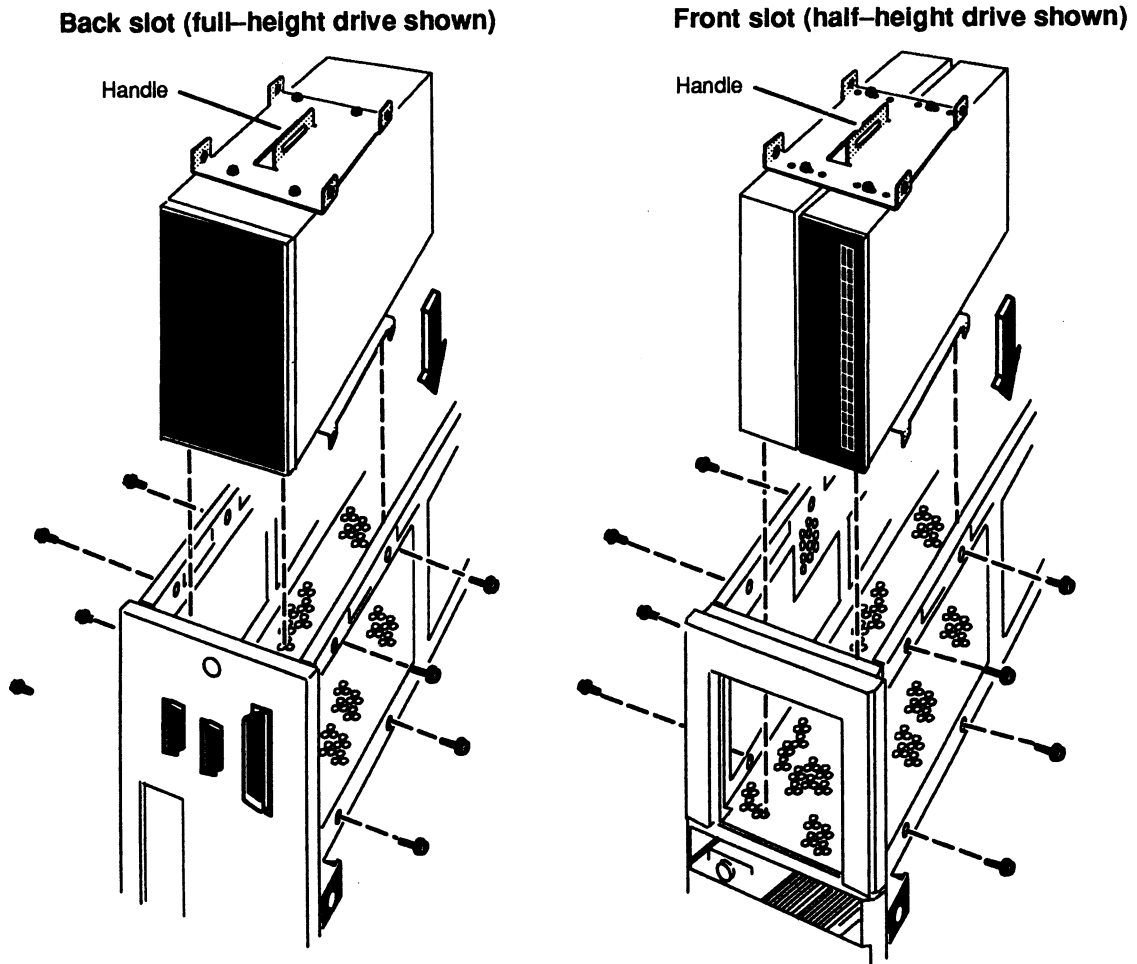

Figure 6-11 Installing a Drive Assembly in the Computer Unit
3. Align the holes on the drive assembly's brackets with the holes in the computer unit frame, and attach the drive assembly to the computer unit with the eight screws and washers as shown in Figure 6-11.